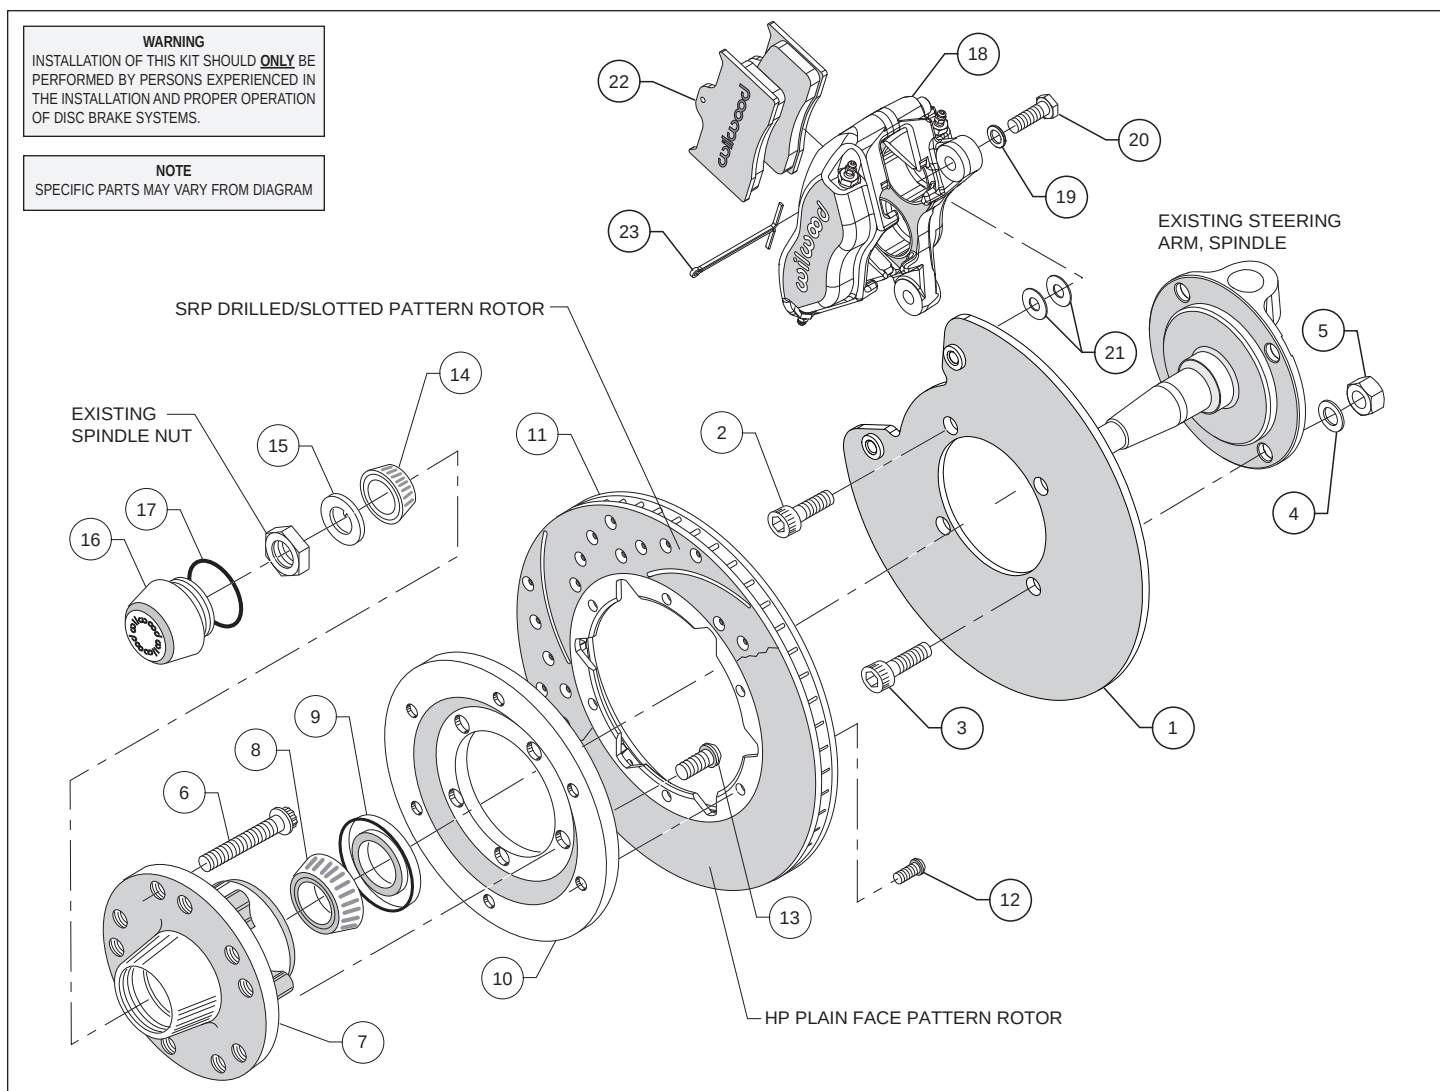
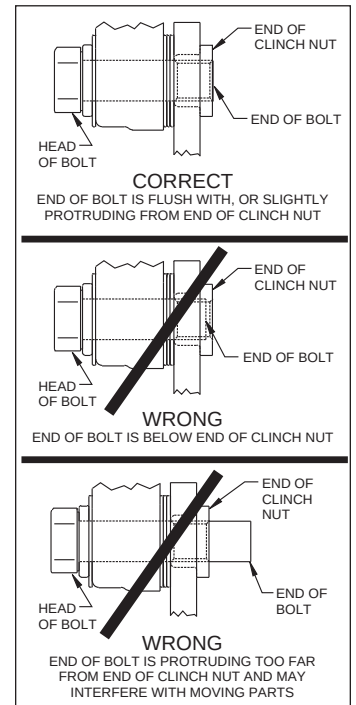

Figure 1. Typical Installation Configuration
Figure 3. Clinch Nut Engagement Diagram
Assembly Instructions (numbers in parenthesis refer to the parts list, on the preceding page and Figure 1): **CAUTION:** All mounting bolts must fully engage clinch nuts. Be sure to check that all bolts are either flush or protruding through flanged side of clinch nut after shimming, Figure 3.
- Align caliper mounting bracket/dust plate (1) with the corresponding holes, to the face of the spindle. Attach using bolts (2 and 3), washers (4), and nuts (5), as shown in Figure 1 and Photo 1. Temporarily tighten the mounting bolts. Ensure that the flanged heads of the clinch nuts in the bracket are facing outboard, Photo 1. **NOTE:** The bracket must fit squarely against the mounting points on the spindle. Inspect for interference from casting irregularities, machining ridges, burrs, etc. Remove bolts one at a time, apply red *Loctite*® 271 to threads and torque to 77 ft-lbs.
- Orient the rotor (11) and the rotor adapter (10) as shown in Figure 1 and Photo 4. Attach the rotor to the adapter using bolts (12). Using an alternating sequence, apply red *Loctite*® 271 to the threads, and torque to 25 ft-lb.
- Mount the adapter/rotor assembly (10/11) to the hub (7) using bolts (13), as shown in Figure 1 and Photo 5. Using an alternating sequence, apply red *Loctite*® 271 to the threads, and torque to 55 ft-lb.
- Screw dust cap (16) into hub (7), Photo 7. Friction created by the o-ring (17) on the dust cap keeps it from unscrewing. **NOTE:** The O.D. of the existing OEM spindle washer may be larger than the I.D. of the dust cap not allowing it to seat against the hub face. Therefore, use the spindle washer (15) supplied with the kit instead of the OEM washer.
- NOTE:** Please reference the caution statement at the beginning of the assembly instructions. Mount the caliper (18) onto the caliper mounting bracket (1) using bolts (20) and washers (19), as shown in Figure 1. Initially place two .035" thick shims (21) on each bolt between the caliper and the bracket, Photo 8. Temporarily tighten the mounting bolts and view the rotor (11) through the top opening of the caliper. The rotor should be centered in the caliper, Photo 9. If not, adjust by adding or subtracting shims between the bracket and the caliper. Always use the same amount of shims on each of the two mounting bolts. **NOTE:** The end of each bolt must be flush with or slightly protruding from the head of the clinch nut, as shown in Figure 3. If necessary place spare shims between washer (19) and caliper mounting ear to achieve the proper clinch nut engagement. Once the caliper alignment and clinch nut engagement are correct, remove the bolts one at a time, apply red *Loctite*® 271 to bolt threads, and torque to 40 ft-lb..